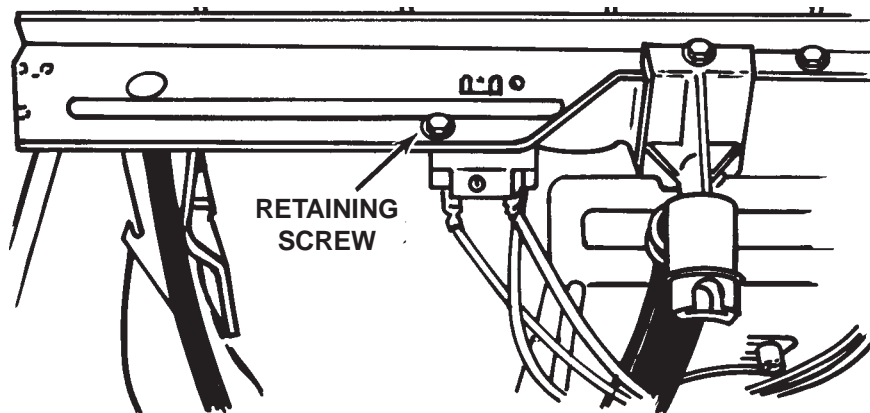

Fig. 1-20
2. Disconnect the three (3) wiring harness connectors from the motor relay terminals.
3. Remove the Hex-head screw securing the motor relay to the tub support. (Fig. 1-20)